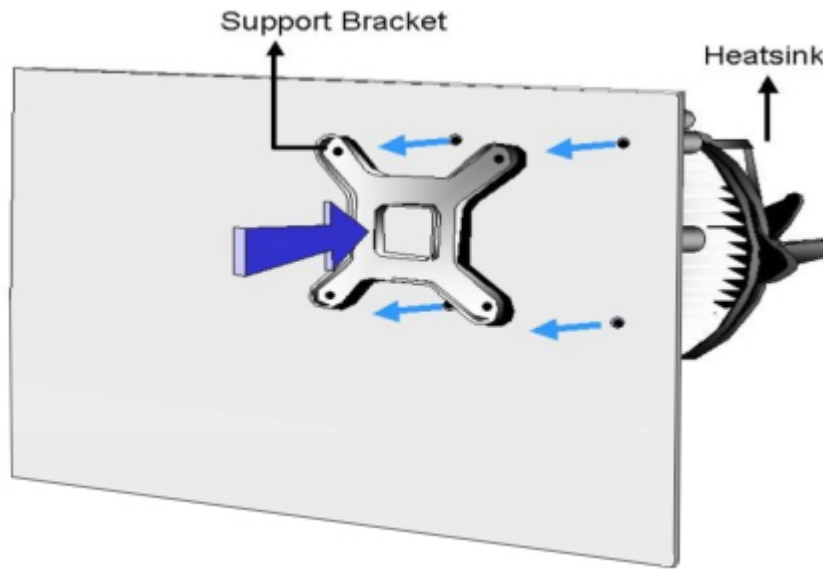

Figure 4-6: Securing the Heat sink to the WSB-G41A
Step 4: Secure the cooling kit. From the solder side of the PCB, align the support bracket to the screw threads on heat sink that were inserted through the PCB holes. (See **Figure 4-6**)